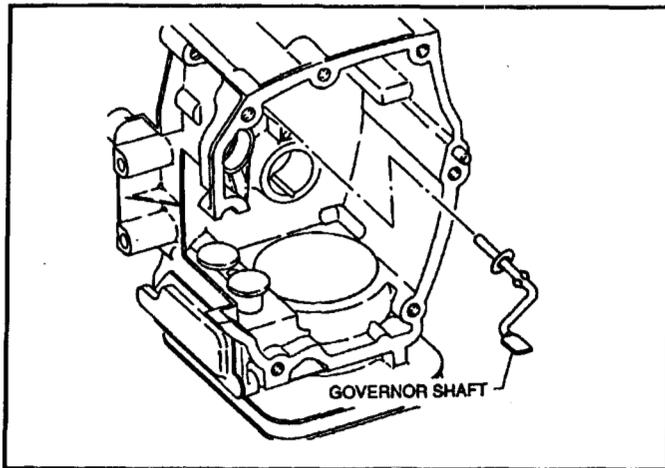

Figure 79
1. Place a flat washer on the governor shaft, against the upset on the shaft. See Figure 79.
3. Insert the shaft in the block of the engine. See Figure 79.